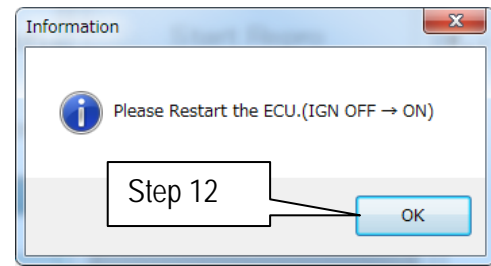
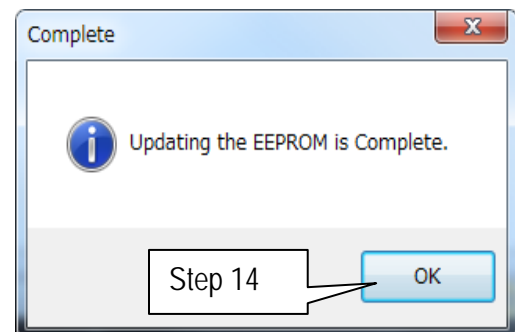

Figure 6
Figure 8
- After selecting OK in Figure 6, the OCS reprogramming will likely complete items 5 through 7 quickly (see "Complete" screen, Figure 8 below).
13 When this screen displays (Figure 8), OCS reprogramming is complete.